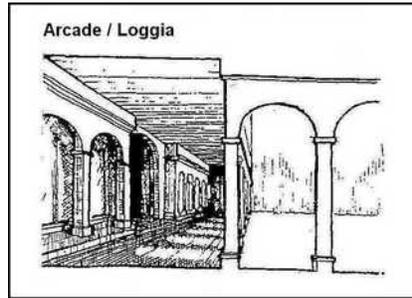

Figure 10
- A porch, portico, arcade, or other similar element located at the main building entrance(s). See Figure 10.